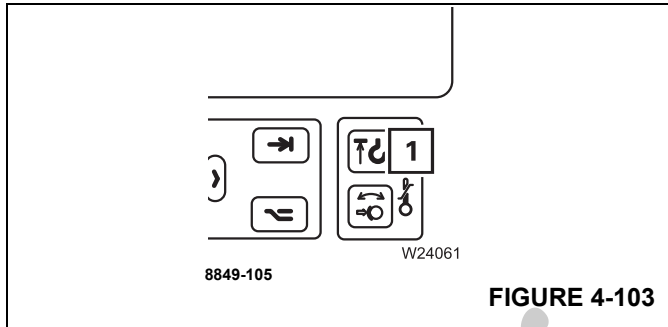

FIGURE 4-103
The lamp (1), (Figure 4-103) will light up if the anti-two block switch has been triggered.